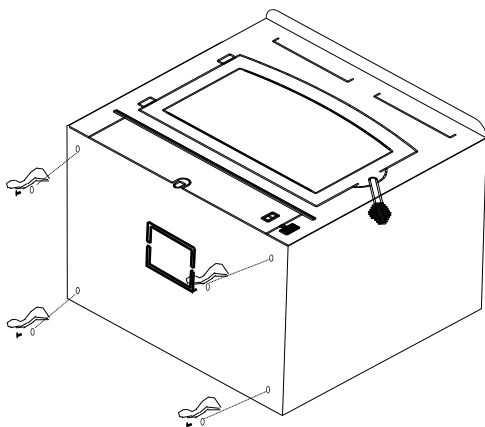

Figure 4
6. Then obtain four legs, attach the legs to holes in bottom of unit with bolts and washers supplied with the leg kit. (See Figure 4.)